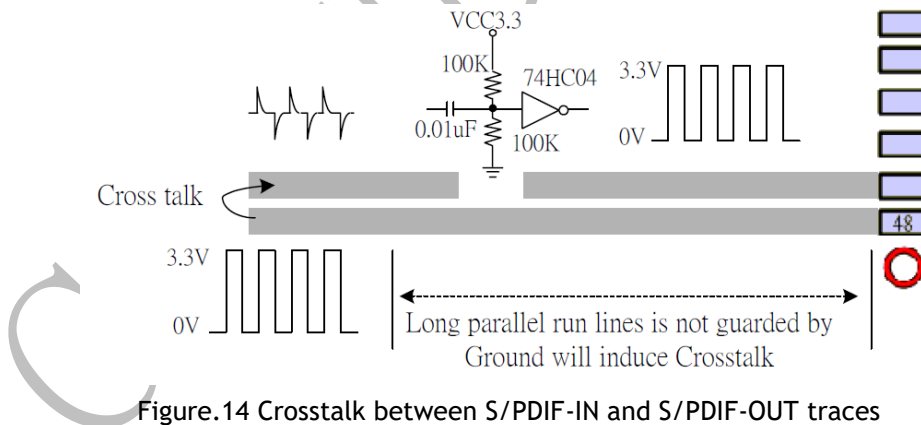

Figure.14 Crosstalk between S/PDIF-IN and S/PDIF-OUT traces
1. Crosstalk is an undesirable feature with S/PDIF signals. It causes a disturbance between S/PDIF-IN and S/PDIF-OUT signals. Mutual coupling mechanisms will be form if S/PDIF-IN and S/PDIF-OUT are parallel, the mutual capacitance and mutual inductance between traces have capacitive and inductive coupling of electromagnetic field generated by S/PDIF-OUT. Figure 14, indicates the coupling energy from S/PDIF-OUT may interfere S/PDIF-IN operation.